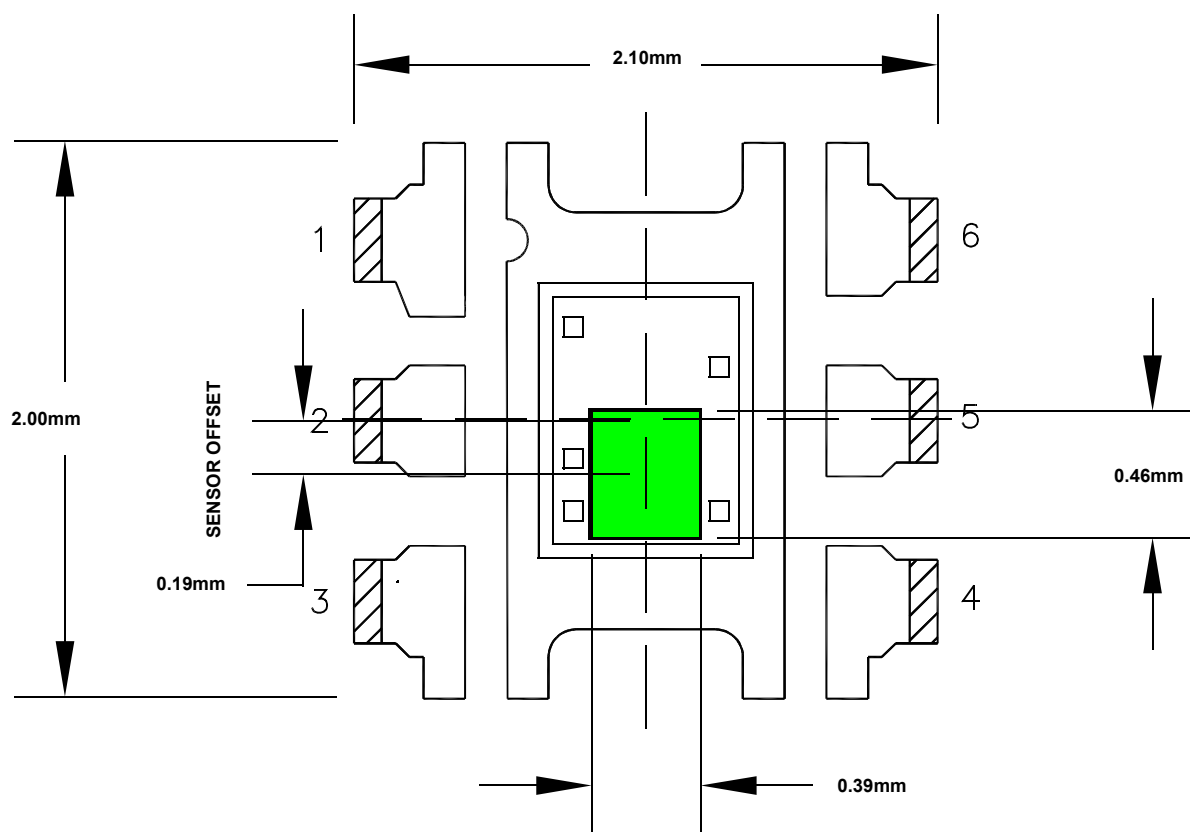

FIGURE 20. 6 LD ODFN SENSOR LOCATION OUTLINE
The green area in Figure 20 shows the optical sensor location outline of ISL76671. Along the pinout direction, the center line (CL) of the sensor coincides with that of the packaging. The sensor width in this direction is 0.39mm. Perpendicular to the pinout direction, the CL of the sensor has an 0.19mm offset from the CL of packaging away from pin 1. The sensor width in this direction is 0.46mm.